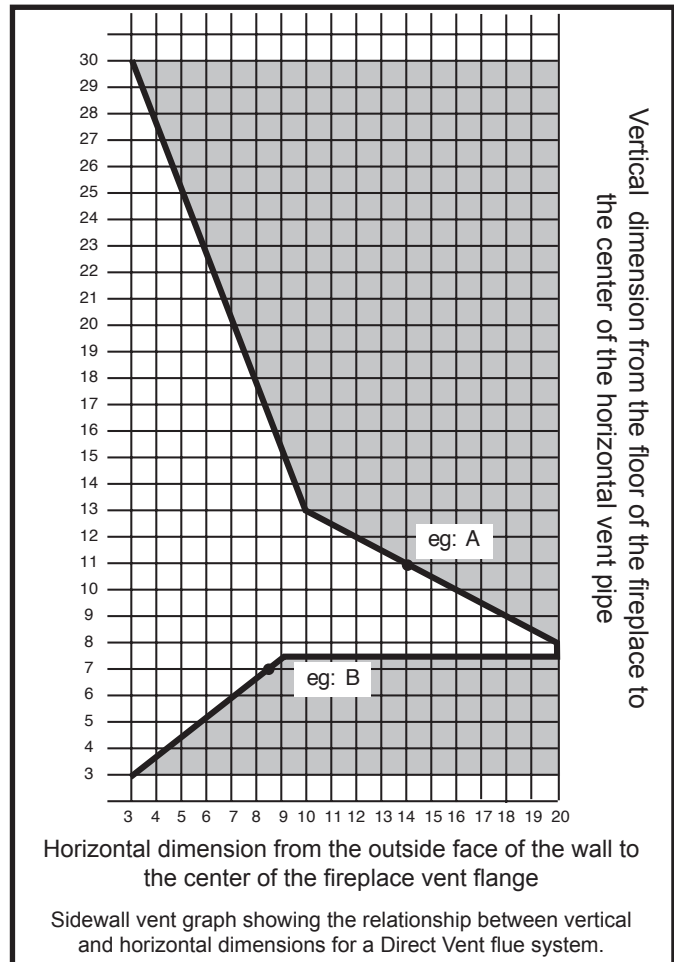

Fig. 10 Sidewall venting graph. (Dimensions in feet)
1. Determine the height of the center of the horizontal vent pipe exiting through the outer wall. Using this dimension on the Sidewall Vent Graph (Fig. 10), locate the point intersecting with the slanted graph line.